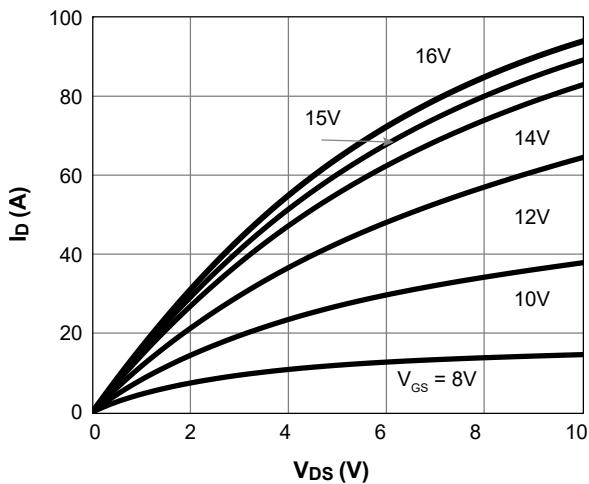

Figure 1. On-Region Characteristics $T_J = 25^\circ\text{C}$
- H. The static characteristics in Figures 1 to 8 are obtained using <300ms pulses, duty cycle 0.5% max.